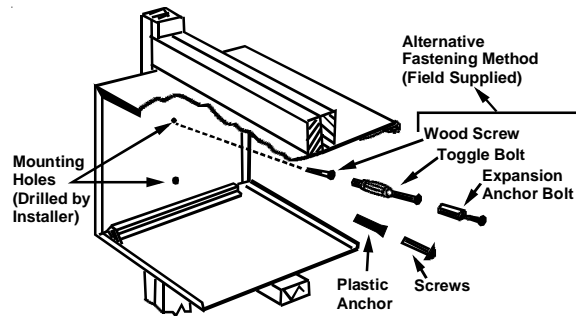

Figure 10 - Wall Sleeve Attachment to Opening
6. Two holes will need to be drilled in both sides of the wall sleeve for mounting into the wall. Drill holes of proper size and in the proper location so the screws will engage into strong supporting members of the wall. **DO NOT DRILL THROUGH BOTTOM OF SLEEVE.** Figure 10 shows possible fastening methods.